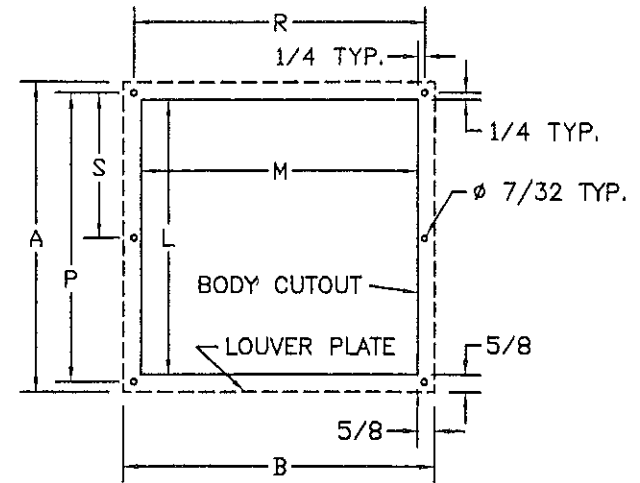

FIGURE 1.
2. LOCATE AND MARK HOLES AND CUTOUT AS SHOWN IN FIGURE 1.